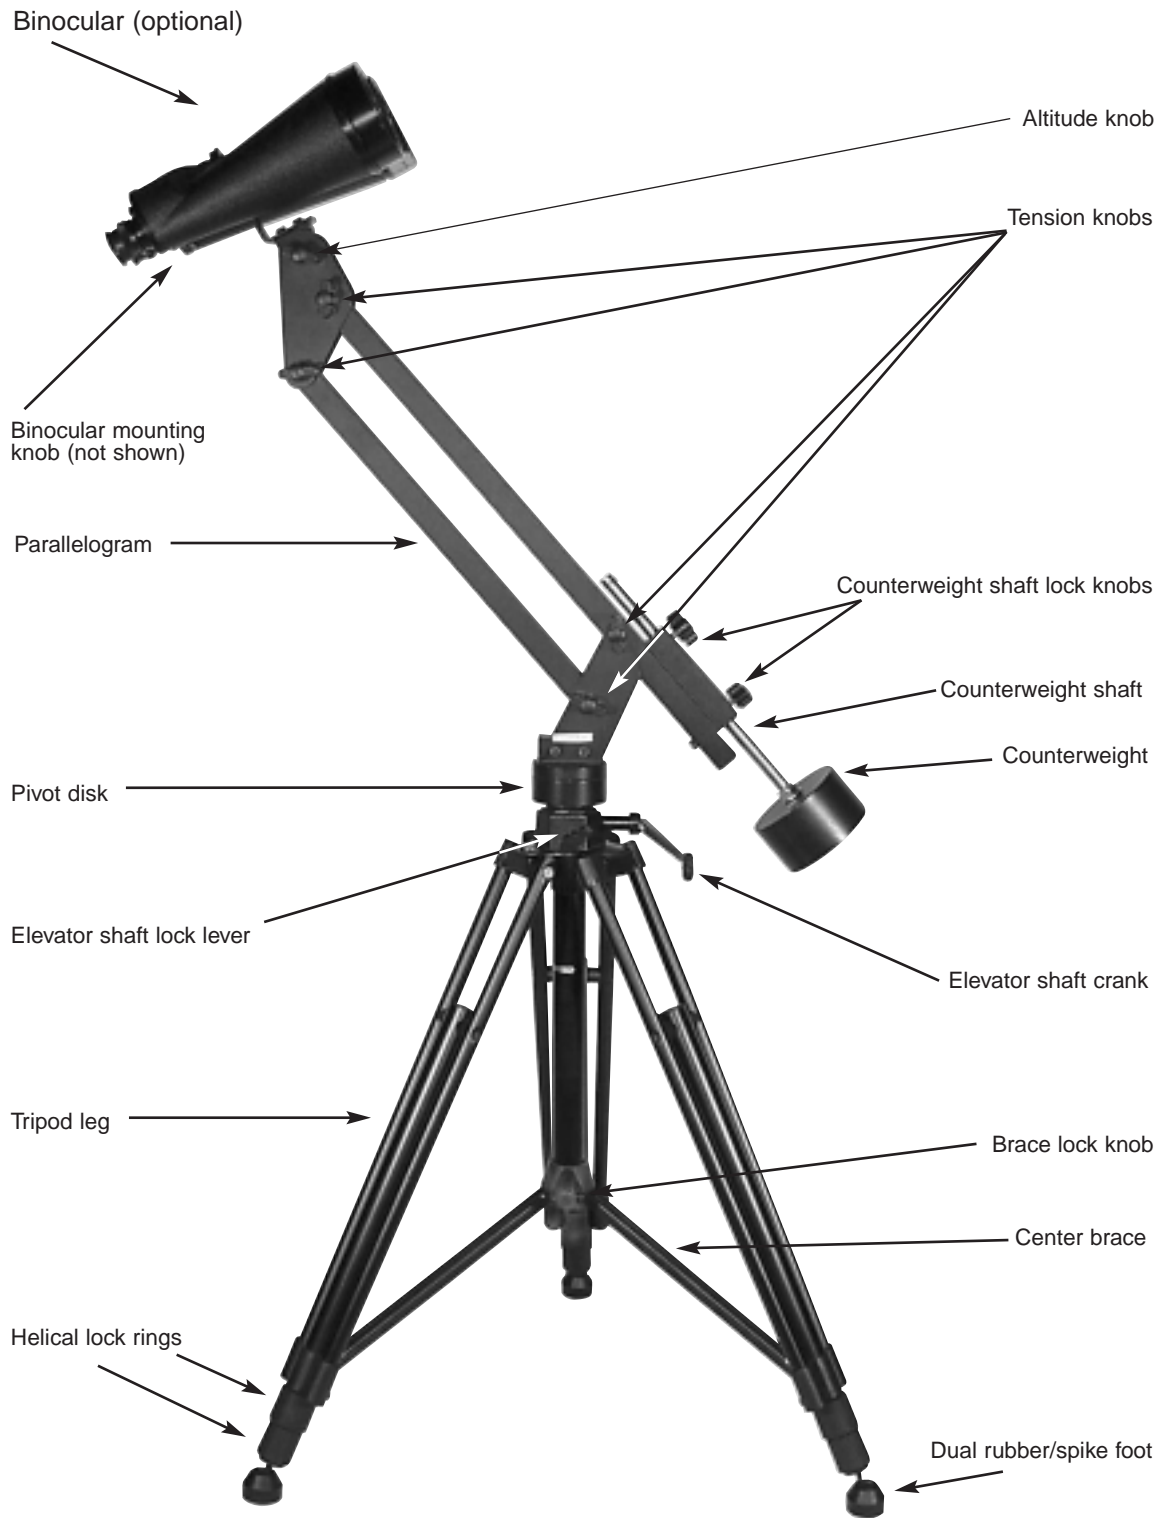

Figure 1. The Paragon-Plus binocular mount
The attachment instructions cover the attachment to either the Paragon-Plus tripod (included with #5374), or any sturdy tripod you might already have. You will need a flat-head screwdriver and a 2mm hex wrench to attach the binocular mount to a tripod. Refer to Figure 1 during assembly.
- 2) Turn the binocular mount upside down. On the bottom of the pivot disk (Figure 1) there is a 3/8" threaded hole containing a brass 1/4"-20 threaded insert. This may need to be removed, depending on the tripod you are using. Compare the size of the threaded post on the tripod with the size of the brass insert. If the brass insert is too small, then it will need to be removed. It should be removed to use it with the Paragon-Plus tripod in the #5374 package. Use the flat-head screwdriver to do this.
- 3) Spread the legs of the tripod as far as they will go and lock them in place with the brace lock knob (Figure 1). Keep the legs at their shortest height, for now. The Paragon-Plus tripod has a very wide stance for enhanced stability. The widest stance is achieved when the tri-brace is as far down as it will go on the elevator shaft housing. The brace lock knob should be tightened to secure the stance. When using the binocular mount, the tripod legs should always be fully extended, otherwise the weight of the binocular mount could cause the tripod to tip over.
Your Paragon-Plus binocular mount is now assembled and should resemble Figure 1.